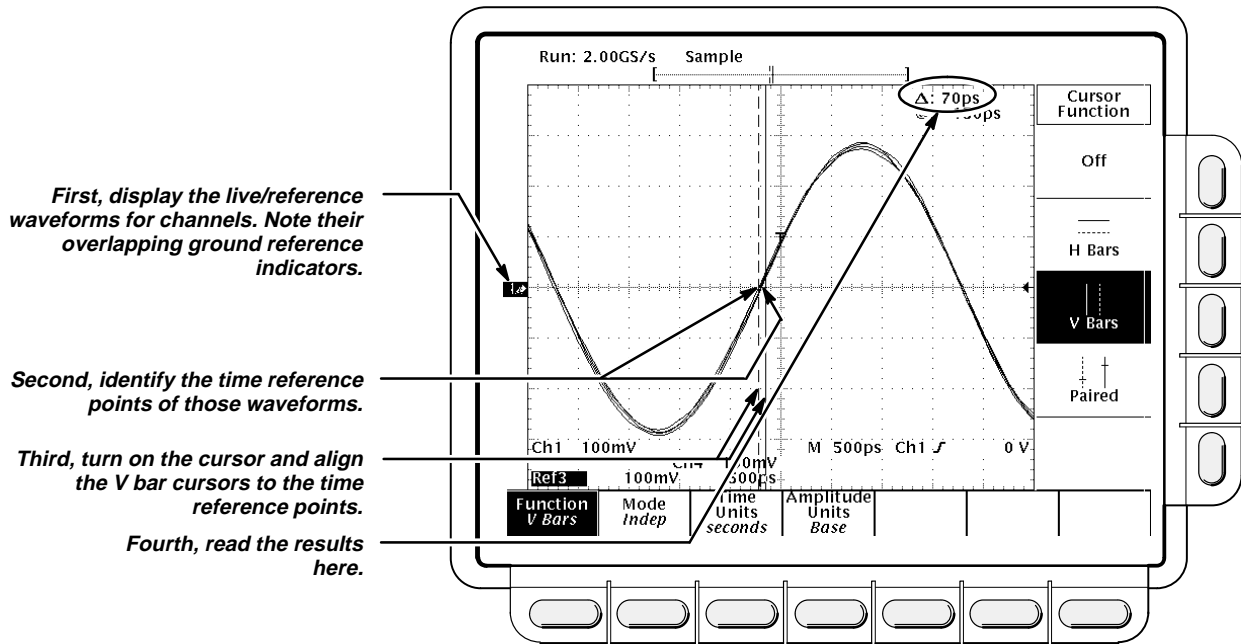

Figure 1-11: Measurement of Channel Delay
- Locate the point on the rising edge of the left-most waveform where it crosses the center horizontal graticule line. This is the *time reference point* for this waveform. Note the corresponding *time reference point* for right-most waveform. See Figure 1-11.
- Rotate the General Purpose knob to align one cursor to the *time reference point* of the left-most waveform edge and the other cursor to the *time reference point* of the right-most waveform edge. (Press **SELECT** to switch between the two cursors.) See Figure 1-11.